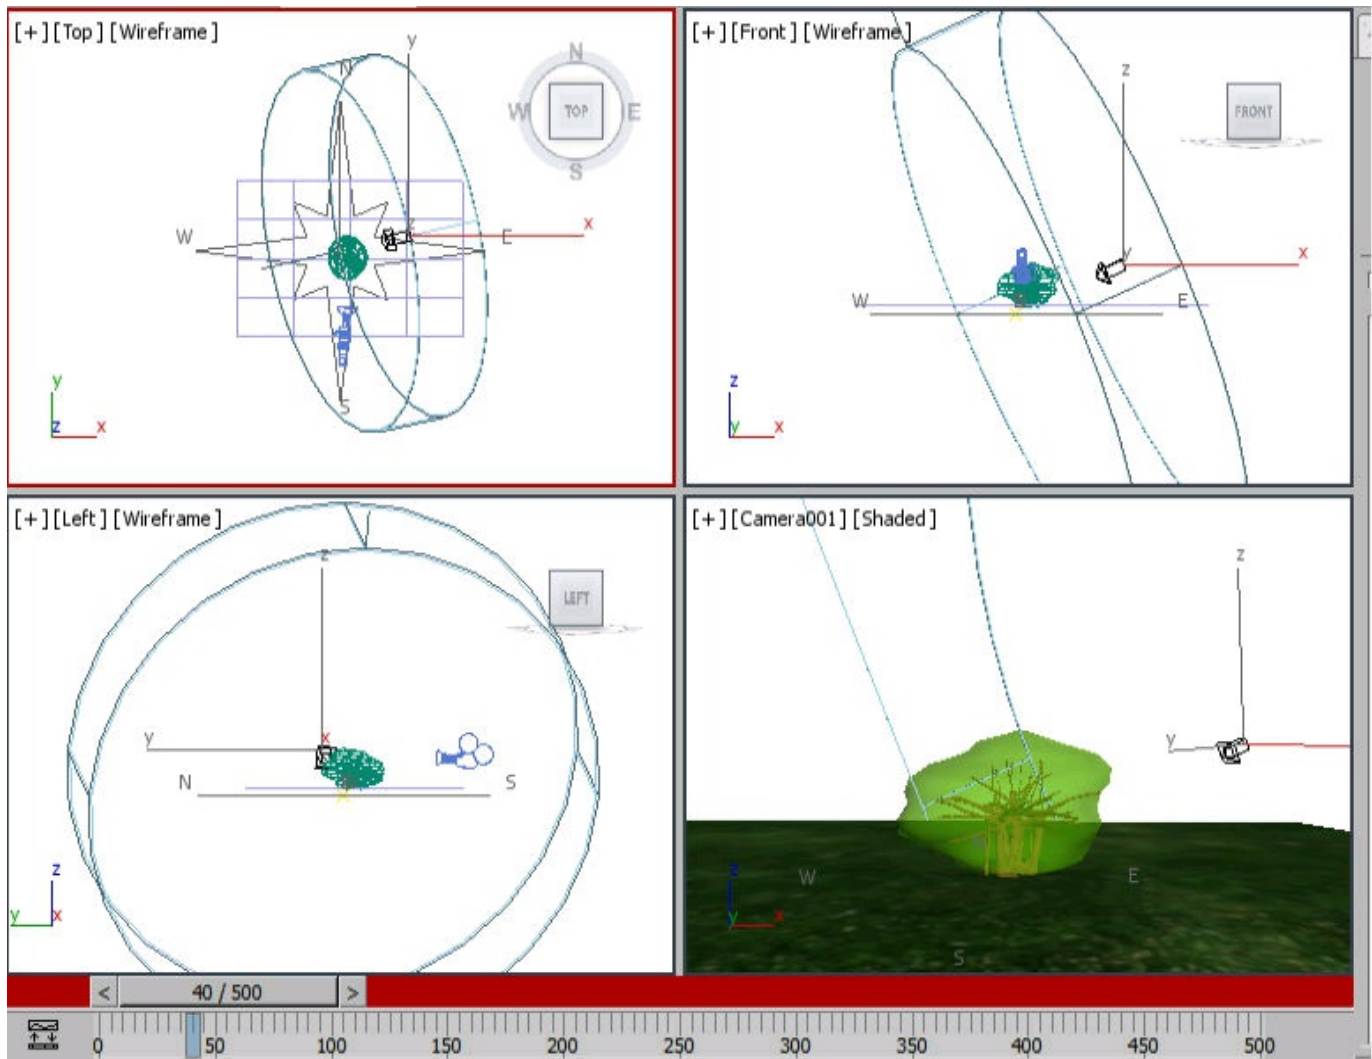

Figure 15-29 The time slider at frame 40
5. Drag the time slider to frame 40, as shown in Figure 15-29. In the **Time** area of the **Control Parameters** rollout, set the value in the **Hours** spinner to **8**; the arrows of the **Hours**, **Mins.**, and **Secs.** spinners turn red.